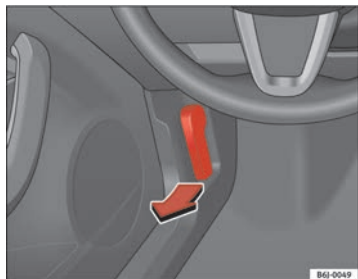

Fig. 119 Bonnet opening lever
- To release the bonnet, pull the lever under the dash panel ⇒ fig. 119 in the direction indicated (arrow). The bonnet will be released by a spring action ⇒ ⚠.